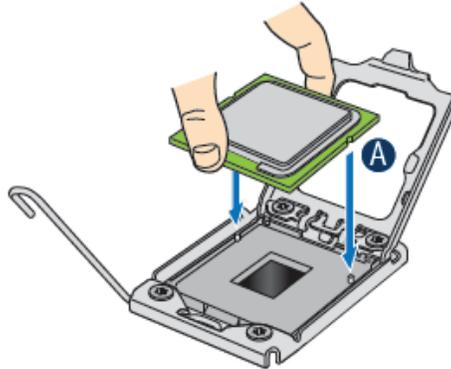

Figure 12. Installing the Processor
- Align the processor cutouts to match the two socket pins, and then insert the processor into the socket as shown in Figure 12.